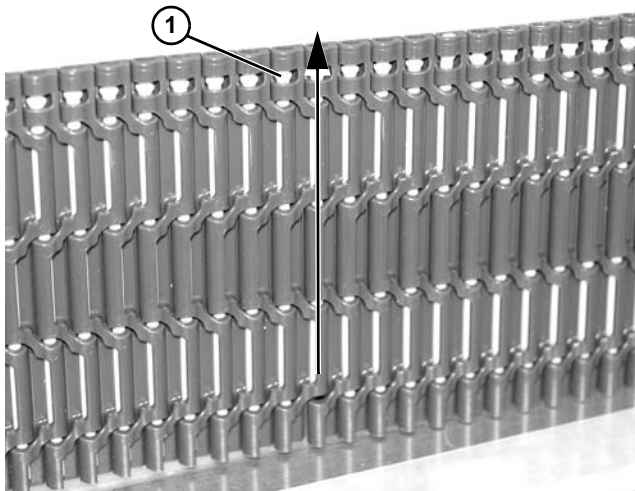

Figure 39
1. Choose one link on either end of the conveyor to remove belt pin. Locate end of rod without retaining feature (Figure 39, item 1).